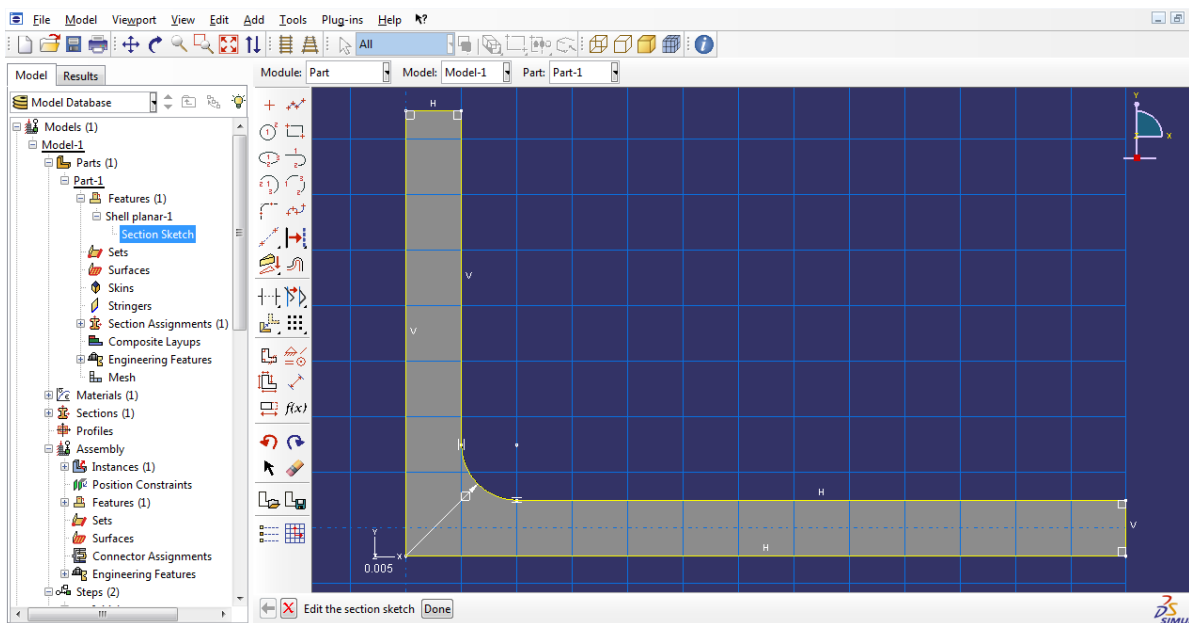

Figure 3
- When complete add the fillet using the “create Fillet Between 2 curves “ button . First type the fillet radius in the prompt then select the two line which are part of the fillet. The end sketch is shown in figure 3. Click the middle mouse button to finish the sketch.